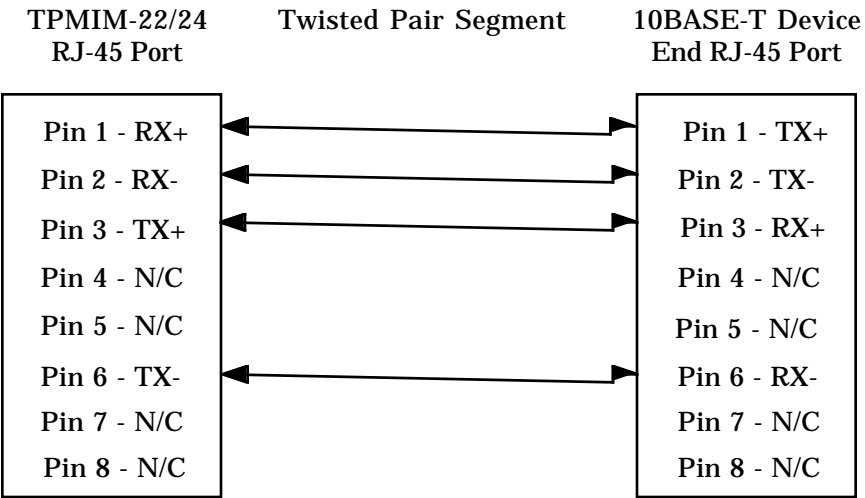

Figure 3-2. Cable Pinouts - TPMIM-22/24
- c. Verify that the RJ-45 connector on the twisted pair segment has the proper pin outs. See Figure 3-2.
In most cases, the feeder cable can be connected directly to a punch down block by a Champ connector located on the block. If not, the punch down block must be wired using the punch down information in Table 3-1 and Figure 3-2. This table and figure describe the pins and the color codes that are used to wire into a punch down block.